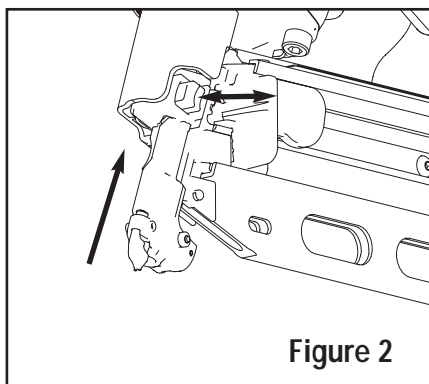

Figure 2
- Depress Locking Button and fully slide Metal Connector Attachment onto tool as shown in figure 2.